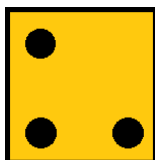

Figure 7.28. End Point Shapes
2. Spot the solution two more times so that the spots form a right triangle; more specifically, the spots will act as the endpoints (see Figure 7.28). Each spot should be approximately 1 mm (in distance) from the original point; try to avoid having the samples touch one another.